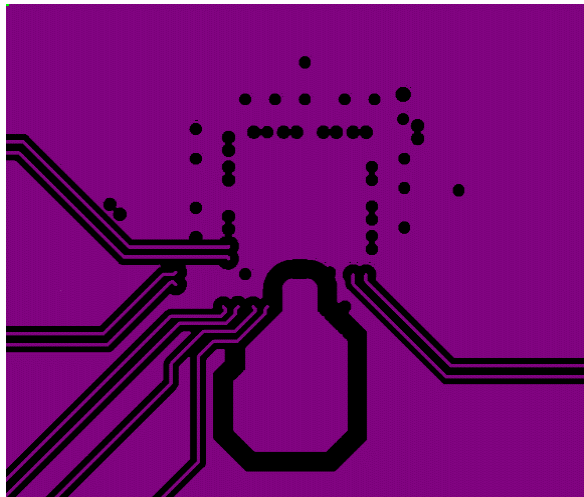
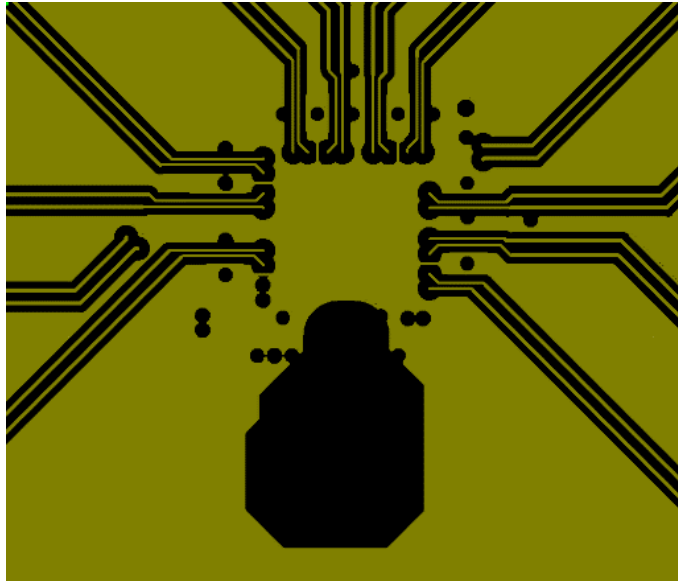

Figure 29. Zoom View Crystal Shield Layer, Below the Top Layer (Layer 2)
Figure 34. Output Clock Layer (Layer 7)
3. Connect the crystal's GND pins to the DUT's X1 and X2 pins via a local crystal shield placed around and under the crystal. See Figure 34 at the bottom left for an illustration of how to create a crystal shield by placing vias connecting the top layer traces to the shield layer underneath. Note that a zoom view of the crystal shield layer on the next layer down is shown in Figure 29.
Figure 29 shows the layer that implements the shield underneath the crystal. The shield extends underneath the entire crystal and the X1 and X2 pins. This layer also has the clock input pins. The clock input pins go to layer 2 using vias to avoid crosstalk. As soon as the clock inputs are on layer 2 they have a ground shield above below and on the sides for protection.
Figure 34 shows the output clocks. Similar to the input clocks the output clocks have vias that immediately go to a buried layer with a ground plane above them and a ground flooded bottom layer. There is a ground flooding between the clock output pairs to avoid crosstalk. There should be a line of vias through the ground flood on either side of the output clocks to ensure that the ground flood immediately next to the differential pairs has a low inductance path to the ground plane on layers 3 and 6.